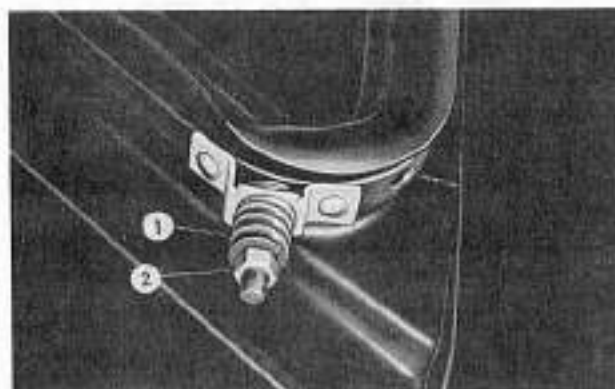

FIG. 367
Fig. 367 illustrates the type of pivot now used on all ventilator assemblies. The ventilator assembly adjustment is made by turning the nut (2) to increase or decrease the tension on the spring (1).